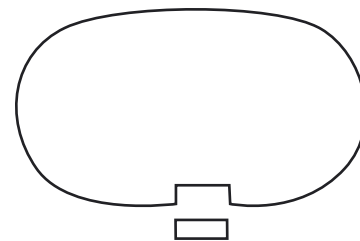

Figure 31.
1. Cut a 2 inch long notch along the straight edge to be stitched. The depth of the notch should be the same as the intended seam allowance to be removed by the cutting blade (Figure 31).